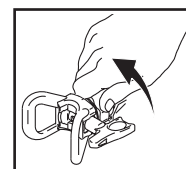

Fig. 11
4. Remove the tip guard. (Fig. 11)